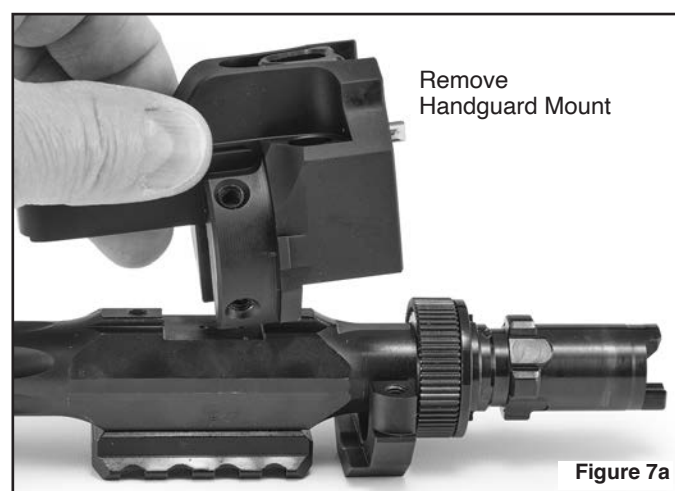

Figure 7a
3. With the screws removed, lift off the modular handguard mount. (See Figures 7a & 7b.)